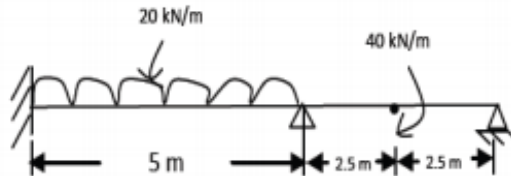

Figure.3
- 8 A two span continuous beam shown in figure 3. The moment of inertia is constant throughout. Analyze the beam by stiffness method.